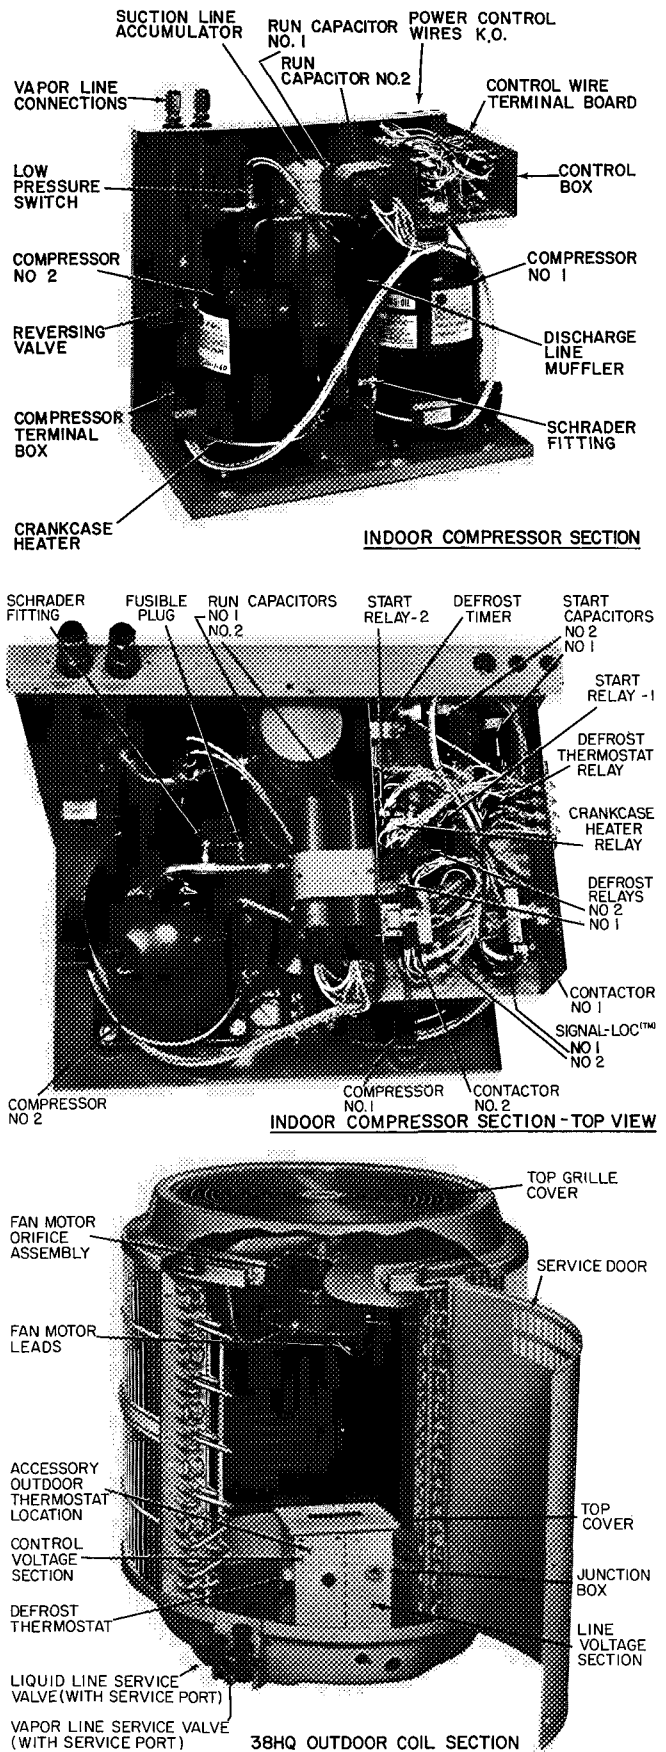

Fig. 14 — Component Location
charge, evacuate system to 500 microns (29.7 in. vacuum) before recharging. Service port connections are provided on indoor compressor unit suction and discharge lines for evacuation and charging. (See Fig. 14 for service port location.) Dial-a-charge charging cylinder is an accurate device used to recharge systems by weight. The cylinders are available at refrigeration supply firms.
2. Measure suction pressure by attaching a gage to indoor unit suction service port. (See Fig. 14 for correct service port location.)
Compressor Removal — See Table 2 for compressor information; Fig. 14 for component location. *Shut off power to unit.* Remove refrigerant from system using refrigerant removal methods described in Carrier Standard Service Techniques Manual, Chapter 1, Refrigerants.
3. Disconnect fan motor leads in line-voltage section of junction box. See Fig. 14.